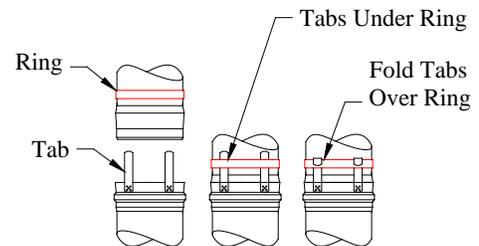

Fig 5. (Ring and Tab Connection)
- Connect parts using the Ring and Tab Connection Method. See Fig 5.